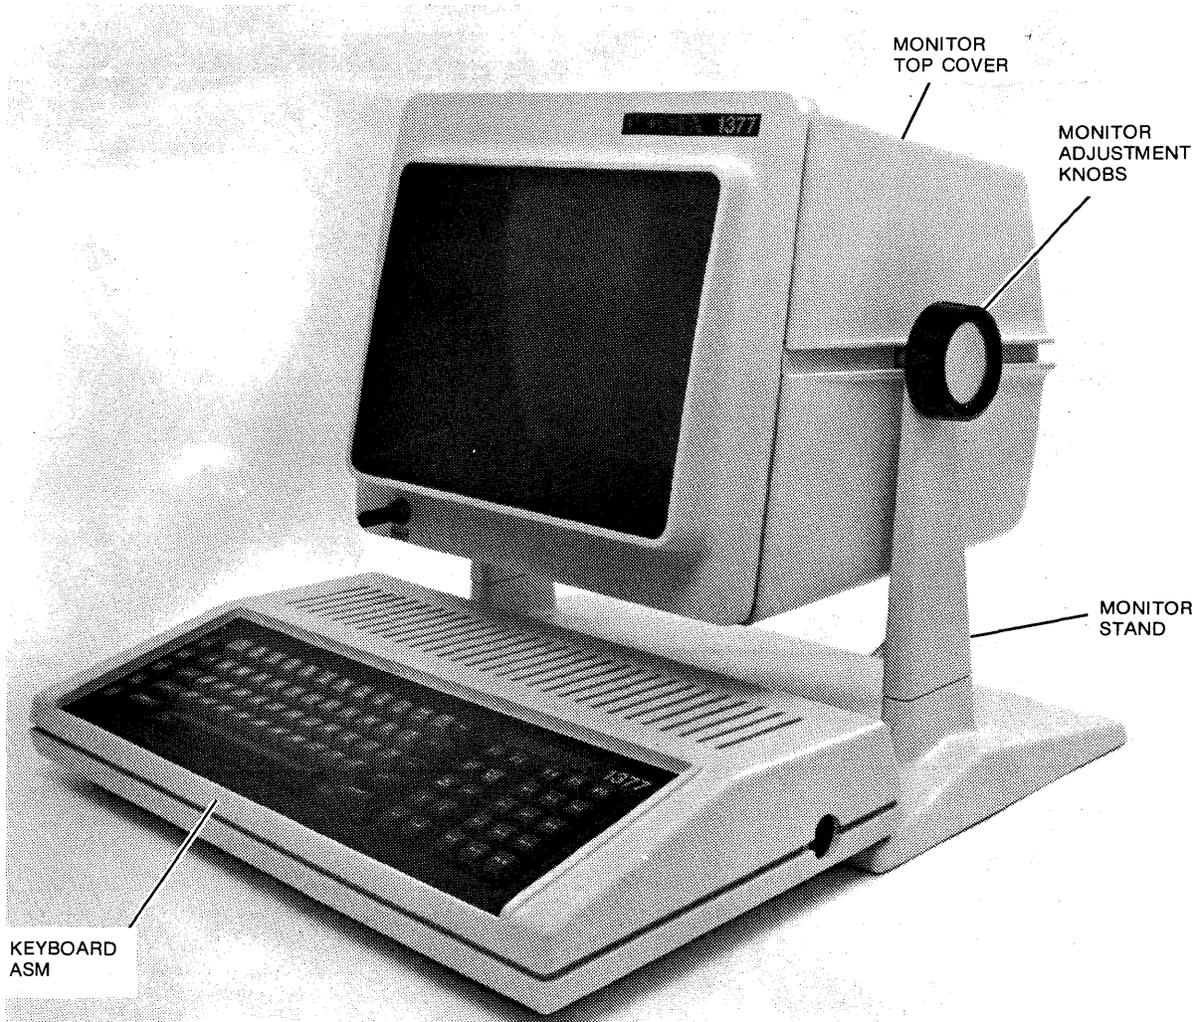

FIGURE 4-2. DISPLAY STATION MAJOR ASSEMBLIES
5. Remove the top cover of the monitor (Figure 4-2).
6. Loosen the monitor adjustment knobs until the housing rocks back and forth freely. (Figure 4-2)